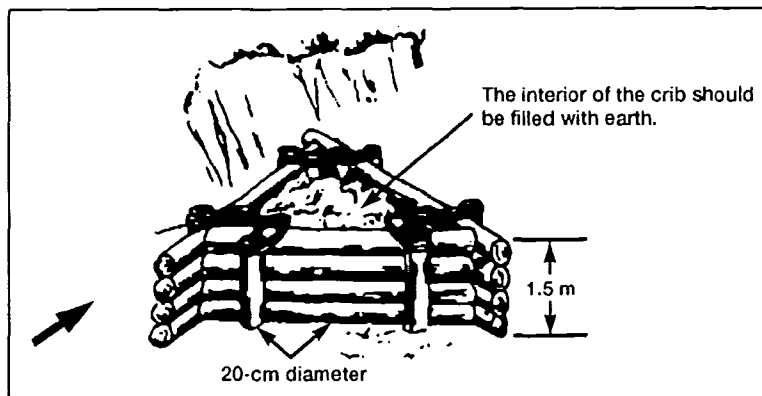

Figure 052-195-3066-8. Triangular Log Crib
- a. Direct the construction of a triangular log crib (figure 052-195-3066-8). Ensure—